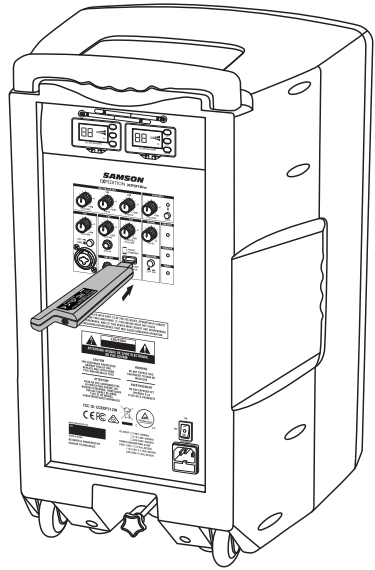

Figure 1
1. Plug the RXD2 USB receiver into one of the USB jacks on rear panel of the XP312w directly (figure 1) or using the included USB extension cable (figure 2).